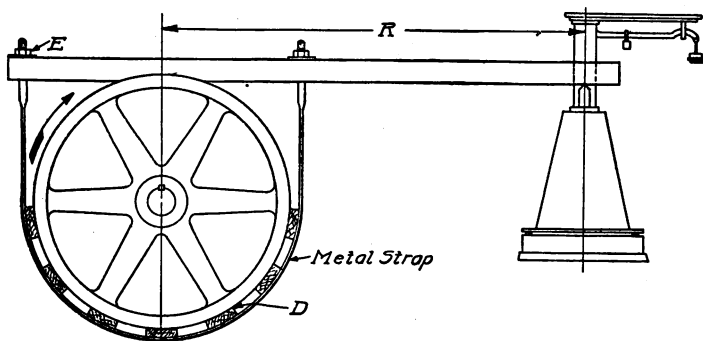

Fig. 94. Prony Brake for Testing Motor Efficiency
**Prony Brake.** The most commonly applied form of friction brake is that one known as a prony brake, one form of which is shown in Fig. 94. This device consists of a series of wood blocks *D* connected by a leather or iron strap and arranged so as to rub on the surface of the flywheel of the engine to be tested. The two arms of the brake rest on a pair of scales. The hand wheel, shown at *E*, is for varying the amount of friction. The horizontal distance *R* from the center of the wheel to the end of the arms is known as the brake arm.